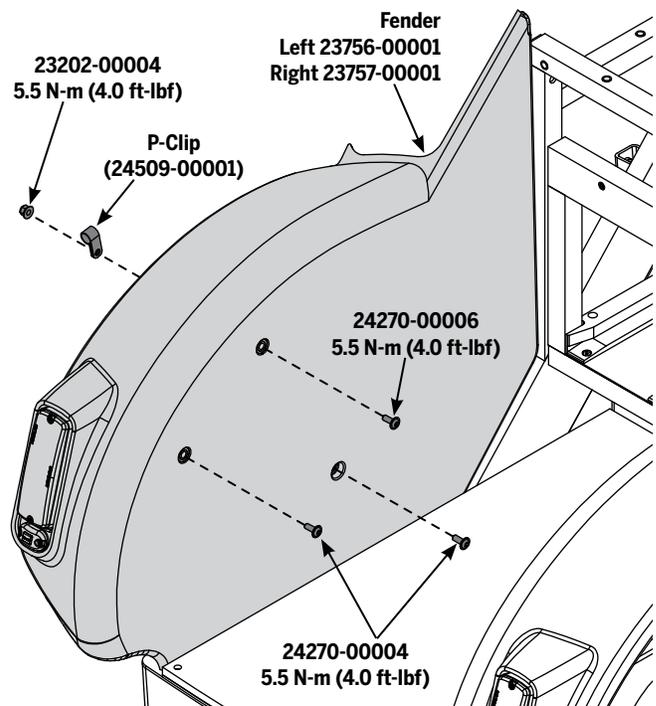

Figure 31: Inside Fasteners
5. Using a 4 mm hex wrench, remove the three inside fasteners (**Figure 31**).
4. Using a 4 mm hex wrench, install the three inside fasteners (**Figure 31**). Place the longer fastener through the upper hole.